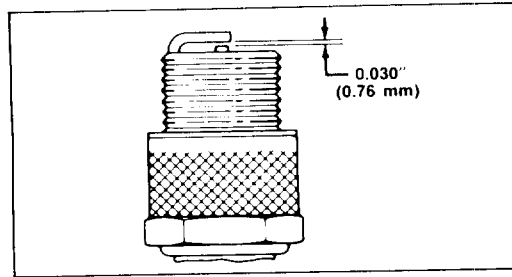

Figure 29
REPLACING SPARK PLUG (Fig. 29)
- Set air gap between electrodes of new spark plug at 0.030 of an inch (0.76 mm) (Fig. 29). Next, install spark plug in cylinder head. Tighten plug to 15 ft-lb (20.4 N·m). If torque wrench is not used, tighten plug firmly.